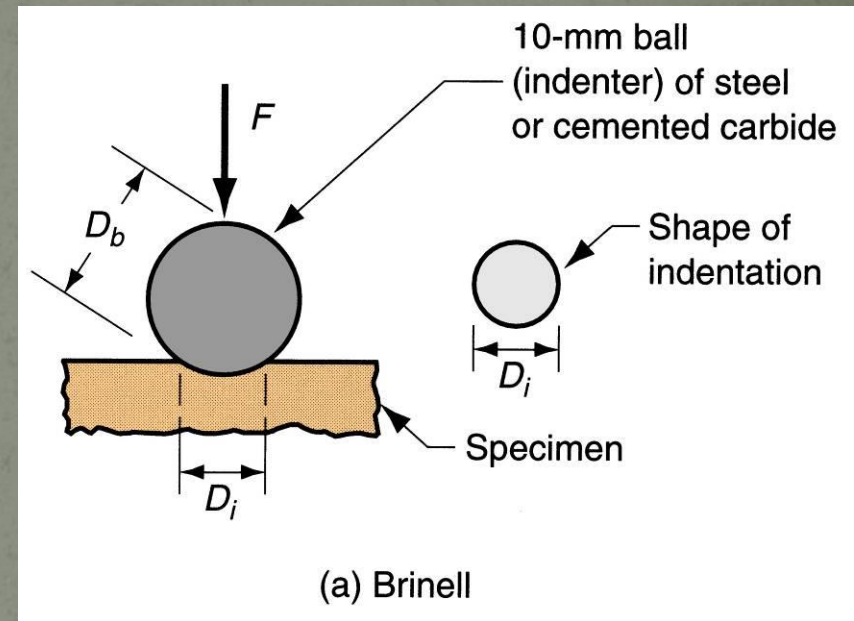

Figure 3.14 Hardness testing methods: (a) Brinell
- Figure 3.14 Hardness testing methods: (b) Rockwell:
- (1) initial minor load and (2) major load.